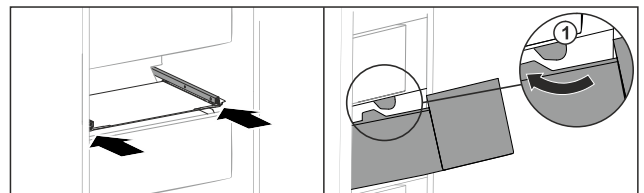

Fig. 155
- ▶ Guide drawer around the stoppers Fig. 155 (1).